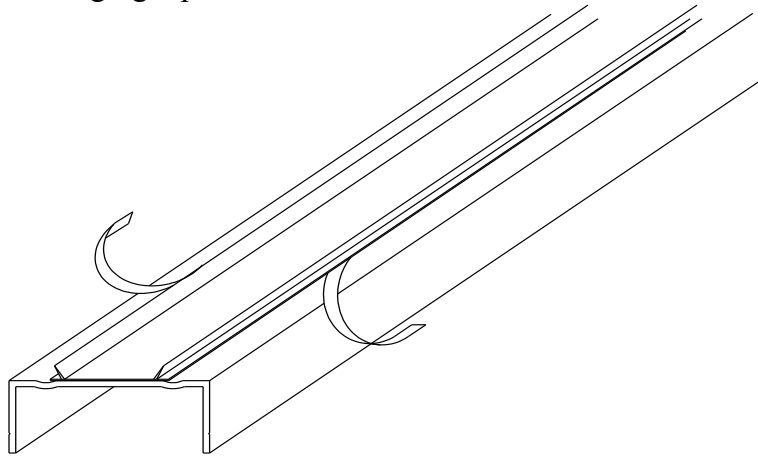

Figure 11
4. If your system is using Silvis Seals you must apply them to the LOWER “A” channels now.. Apply the Silvis Seal to the appropriate “A” channels by removing approximately 2 ft. of backing tape. Starting at the end of the “A” channel, apply the Seal being careful to orient the Seal in line with the “A”. Lay the rest of the Seal on to the channel. Carefully pull the remaining backing tape from the “Seal” and using light pressure adhere it to the aluminum as shown in Figure 11.